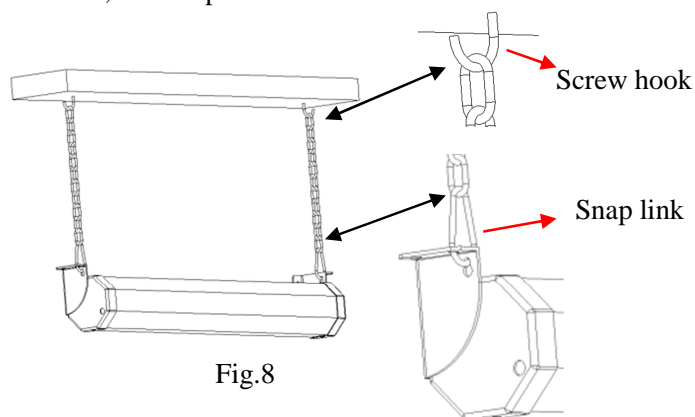

Fig.8
2. Insert wall anchors into the drilled holes on the ceiling and then insert the screws through the chain's support into the anchors and ensure that you tighten the screws without stripping the anchors (see Fig. 8).
3. Attach the chains to the support that was screwed into the ceiling. Attach the end caps of the screen to the snap link that are at the bottom of the chains for sustainability (see Fig. 8).